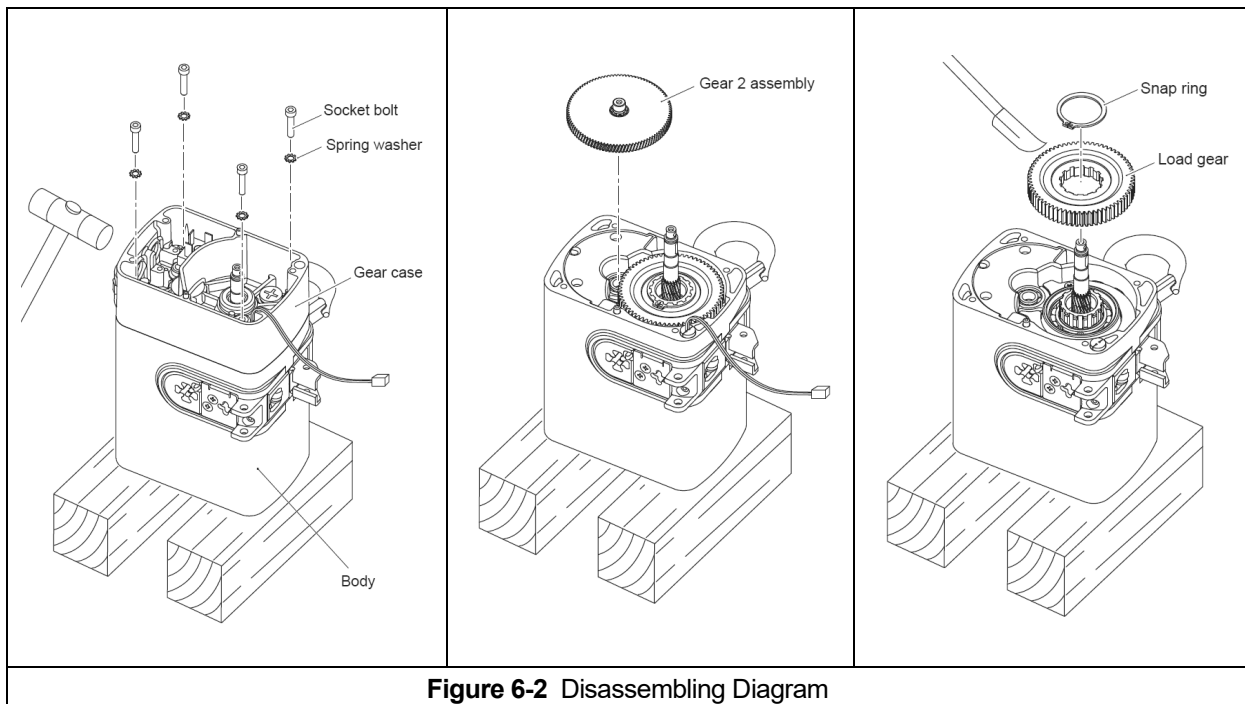

Figure 6-2 Disassembling Diagram
- 1) Remove the 4 socket bolts (spring washers) securing the gear case. (See **Figure 6-2**)
- 3) Remove the gear 2 assembly from the body. (See **Figure 6-2**)
- 4) Remove the snap ring from the load gear and the load gear. (See **Figure 6-2**)
- 5) Scrape off any grease adhering to the gear 2 assembly, the load gear and the guide pin retainer using the spatula. (See **Figure 6-2**) No other cleaning recommended before reassembly such as clean removed gears in solvent and wipe dry with a clean cloth. Wipe gearcase clean with rags, do not use solvent inside gearcase.